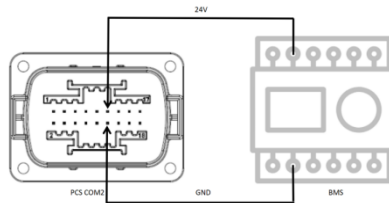

Figure 6-28 BMS Disconnects From BAT-
Step 1: To disconnect the main negative contactor of the PCS, an external safety power supply is required, as shown in Figure 6-28.